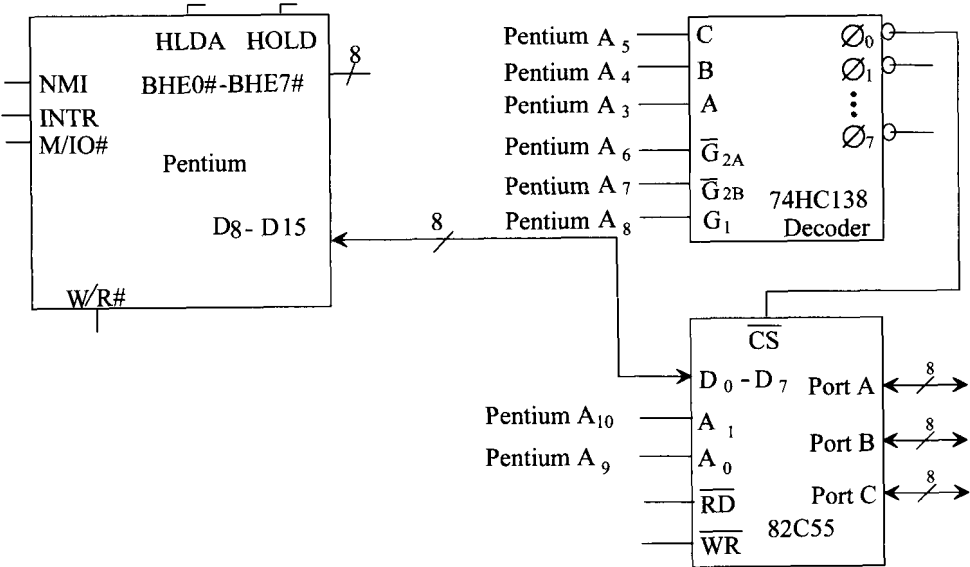

FIGURE P12.18
- 12.18 Will the circuit shown in Figure P12.18 work? If so, determine the I/O map using memory-mapped I/O in hex. If not, justify briefly, modify the circuit, and determine the I/O map using memory-mapped I/O in hex. Use only the pins and signals provided. Assume all don't cares to be zeros. Note that the I/O map includes the addresses for port A, port B, port C, and the control register. Do not change any connection in Figure P12.18. You may connect unconnected signals to HIGH, GROUND, or to other signals as appropriate. You may use logic gates if necessary. Assume no interrupts or DMA. Use pins and signals as needed. Assume real mode.